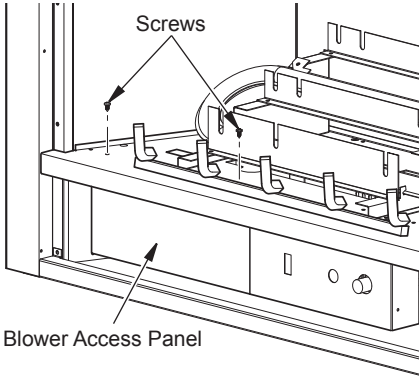

Figure 6 - Removing Blower Access Panel
1. **CRHFD32RT-M-MO, FBD32 Series and FDI32-A Only** Remove 2 screws securing panel as shown in Figure 6. Remove panel to gain access to blower compartment.